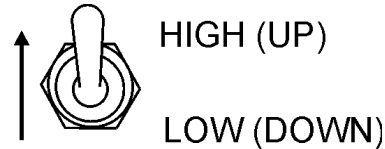

Figure 64. Engine Speed Switch (High)
24. Once the engine is warm and the engine is running properly, place the engine speed switch in the **“HIGH”** position (Figure 64).